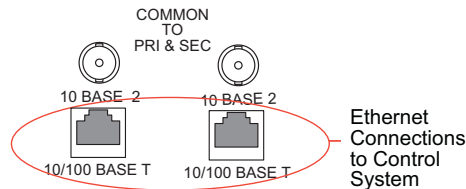

Figure 3-14. Ethernet Connections to Router Control System (Rear View)
- 1 Locate the Ethernet connections on the rear of the router, as shown in Figure 3-14. Ethernet control connections are labeled '10/100 BASE T'.